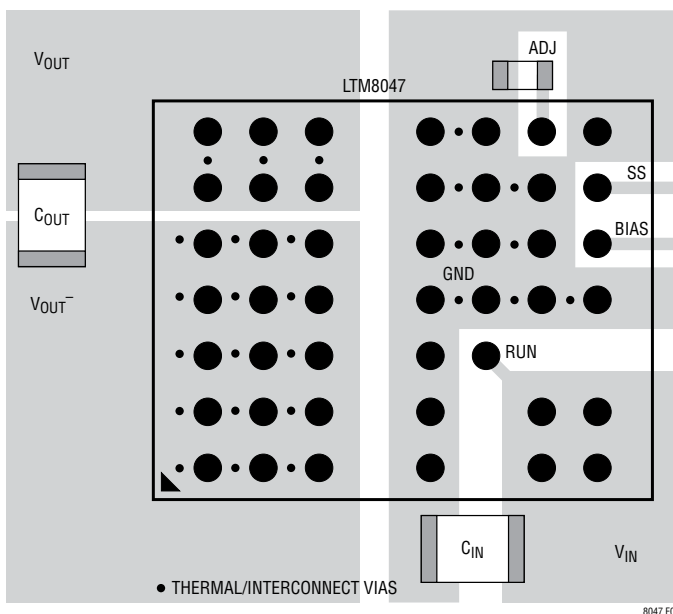

Figure 1. Layout Showing Suggested External Components, Planes and Thermal Vias
Most of the headaches associated with PCB layout have been alleviated or even eliminated by the high level of integration of the LTM8047. The LTM8047 is nevertheless a switching power supply, and care must be taken to minimize electrical noise to ensure proper operation. Even with the high level of integration, you may fail to achieve specified operation with a haphazard or poor layout. See Figure 1 for a suggested layout. Ensure that the grounding and heat sinking are acceptable.
6. Use vias to connect the GND copper area to the board's internal ground planes. Liberally distribute these GND vias to provide both a good ground connection and thermal path to the internal planes of the printed circuit board. Pay attention to the location and density of the thermal vias in Figure 1. The LTM8047 can benefit from the heat sinking afforded by vias that connect to internal GND planes at these locations, due to their proximity to internal power handling components. The optimum number of thermal vias depends upon the printed circuit board design. For example, a board might use very small via holes. It should employ more thermal vias than a board that uses larger holes.